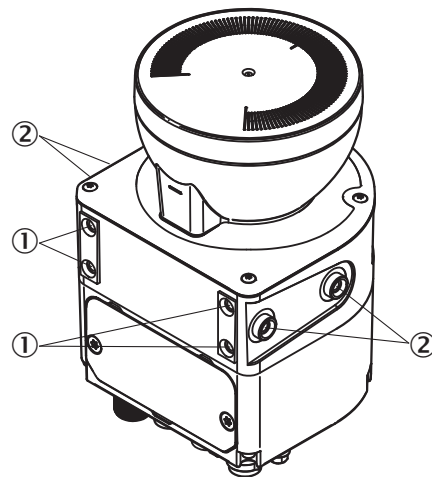

Figure 40: Mounting the safety laser scanner directly
- ① Rear M5 threaded hole
- ② Side M5 threaded hole
- ▶ Use either the rear or the side M5 threaded holes for direct mounting, see figure 40, page 57.